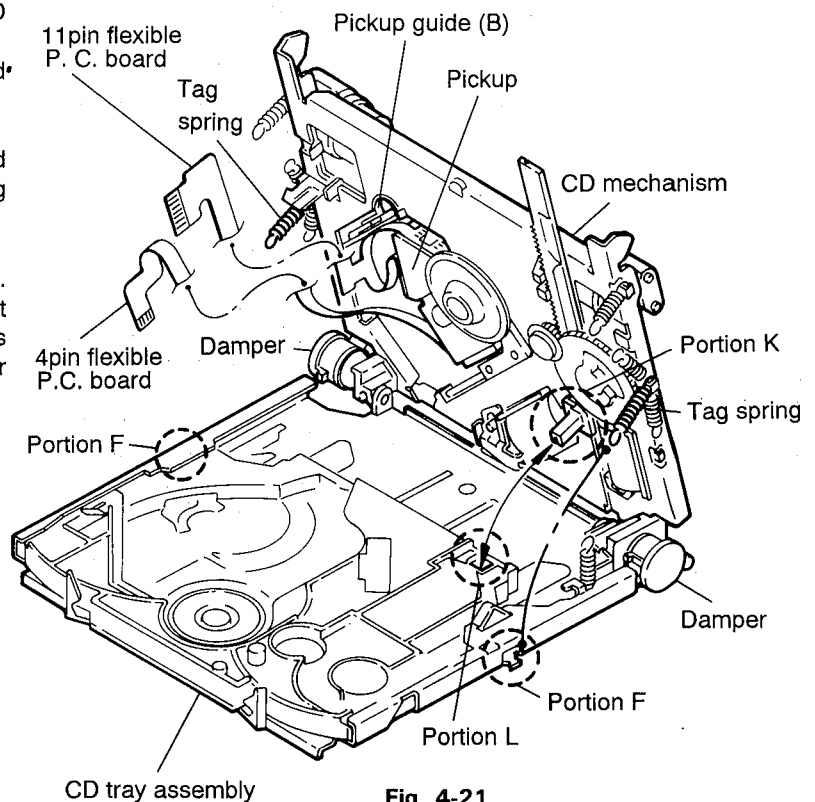

Fig. 4-21
13. Remove only the portion of the tag spring from the CD tray assemblies (right and left) (See Fig. 4-21).
14. Open the damper side of the CD mechanism toward the center as shown in Fig. 4-21.
15. From the pickup guide (B), remove the flexible P.C. boards (4 and 11 pins) outgoing from the pickup unit by using tweezers. In this case, the P.C. boards should be removed so carefully as not to damage or bend the P.C. boards (See Fig. 4-21).
2. Close the portion K on the CD mechanism side while aligning it to the portion L of CD tray assembly (See Fig. 4-21).
4. Hang the tag spring on the portion F of CD tray assembly as shown in Fig. 4-21.